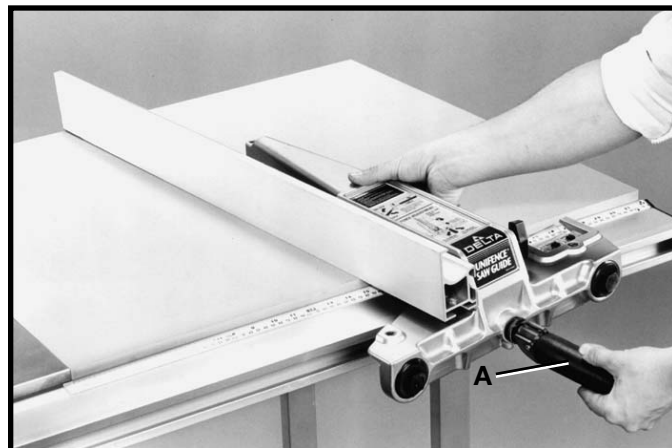

Fig. 114
6. To remove the fence and fence body assembly (F) Fig. 114, from the guide rail, lift up on fence clamping lever (A) and turn lever (A) to the left indent position. The fence assembly (F) can then be pulled straight off the guide rail and removed, as shown in Fig. 114.